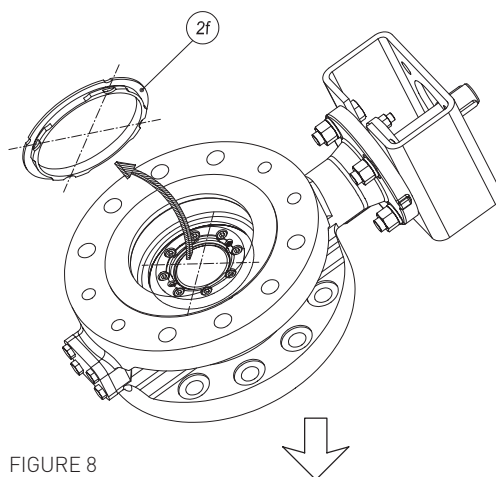

FIGURE 8
5. Remove the SSG (2f) - figure 8: